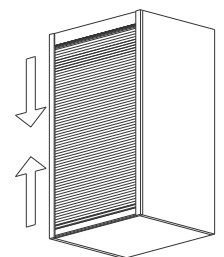

Fig.10
7. Slide the rolling shutter to ensure smooth working, Fig.10.